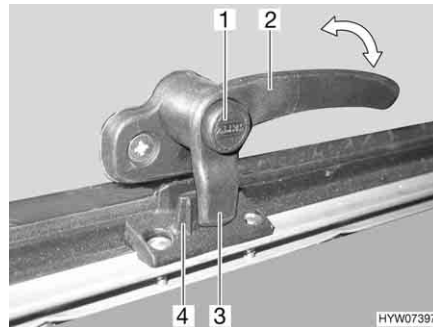
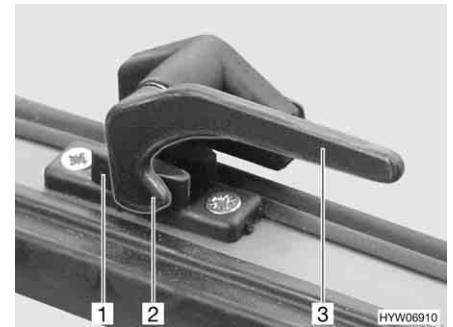

Fig. 53 Catch lever with safety knob in "closed" position
Fig. 54 Catch lever in "closed" position
- Press and hold the security button (Fig. 53,1), if present.
- Turn the catch lever (Fig. 53,2 or Fig. 54,3) a quarter turn towards the centre of the window.
- Turn the catch lever (Fig. 53,2 or Fig. 54,3) a quarter turn towards the window frame. The locking catch (Fig. 53,3 or Fig. 54,2) on the catch lever is entirely on the inner side of the window catch (Fig. 53,4 or Fig. 54,1).
- "Firmly closed" (Fig. 53 and Fig. 54)